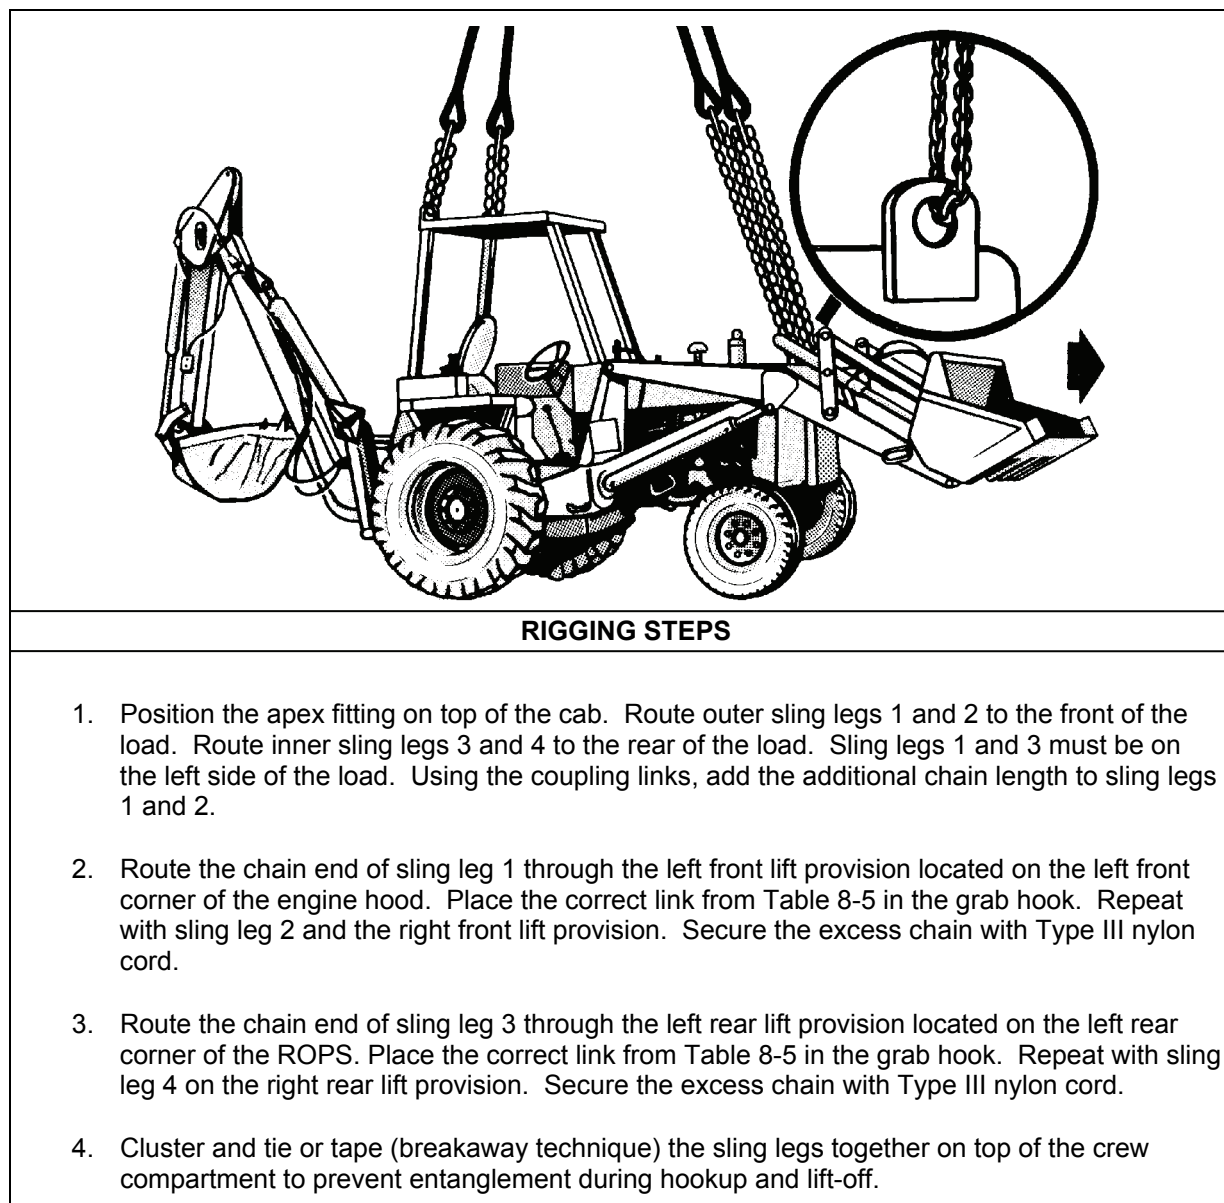

Figure 8-5. Case Model 580 Wheeled Industrial Tractor
- **Rigging.** Rig the load according to the steps in Figure 8-5.